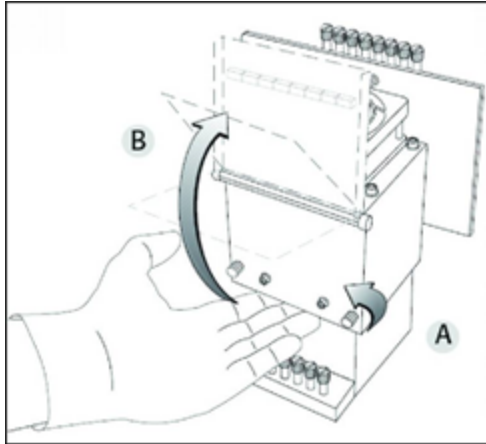

Figure 6-72 Opening the print-head compartment
- a. Open the print head compartment (see Figure 6-72 on page 6-52).